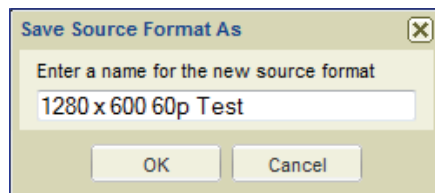

Figure 128. Saving a Source Format
18. In the **Save Source Format As** dialog box, enter a name for the new source format and click **OK** (see figure 128).